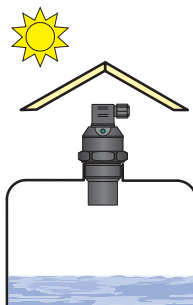

Fig. 8: Shielding cover against direct sunlight
- l) If installation in places with direct sunlight is inevitable, it is necessary to mount a **shielding cover** above the device (Fig. 8).